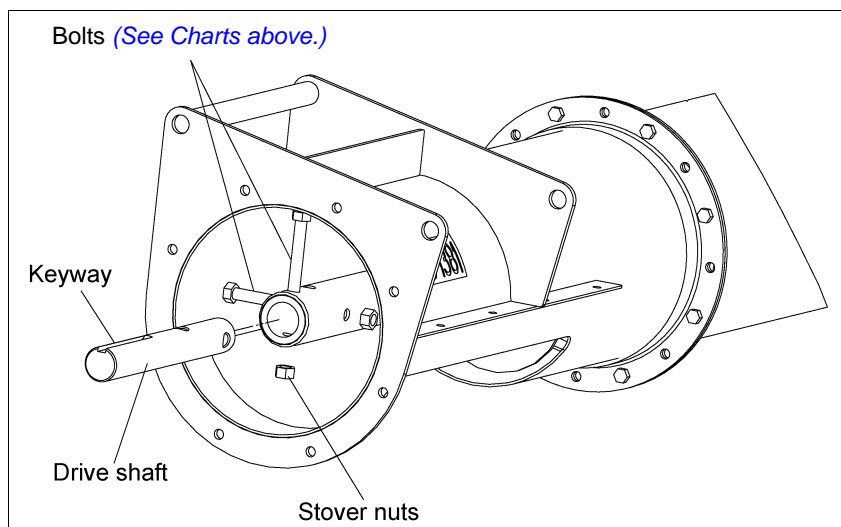

Figure 4G
- A. Insert the drive shaft into the opposite end of flight with keyway facing outward. Align the holes in the shaft and secure with grade 8 bolts and stover nuts. (*See Chart below and See Figure 4G.*)